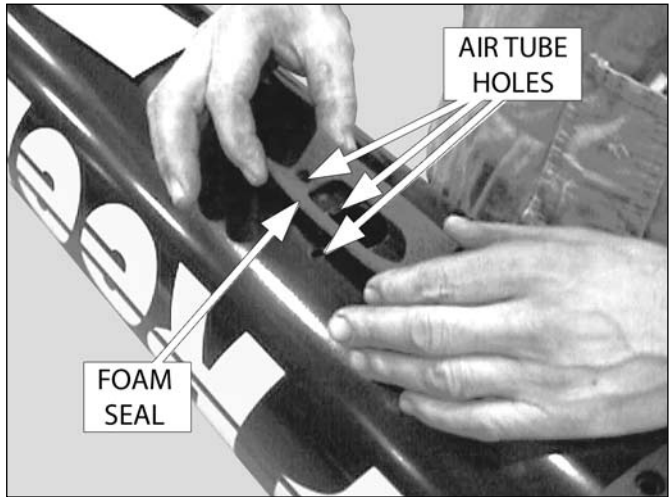

Figure 16, Apply self-adhesive foam seals
2. Apply the self adhesive foam seals (Figure 16).